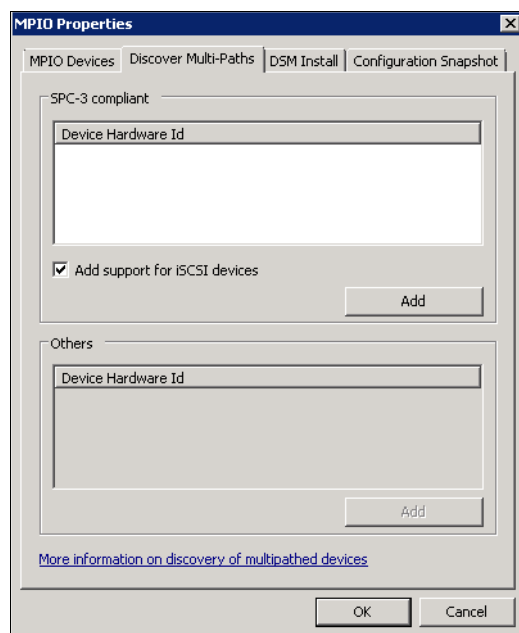

Figure 5-36 Enable iSCSI MPIO
2. Click **Start** → **Administrative Tools** → **MPIO**, click the **Discover Multi-Paths** tab, and select the **Add support for iSCSI devices** check box (Figure 5-36).